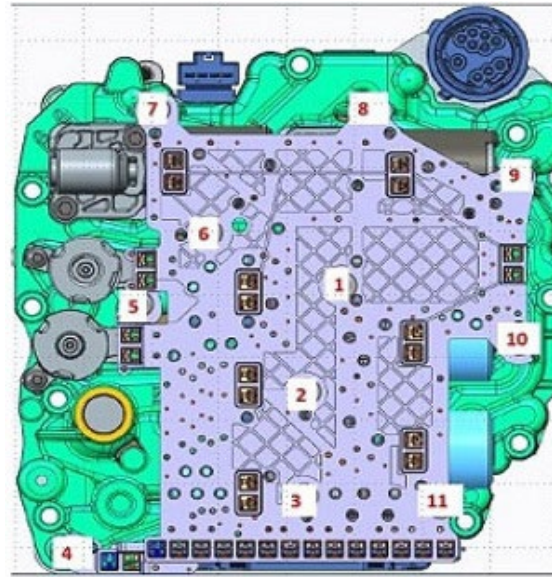

Figure 21. Contact Plate Bolts 0DL Transmission.
• **For 0DL Transmission (figure 21):**